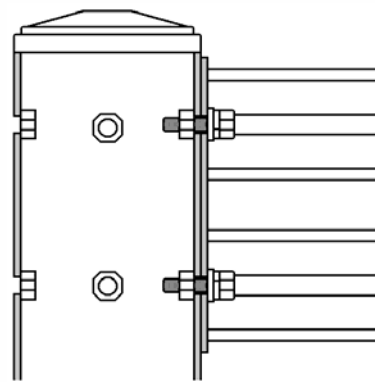
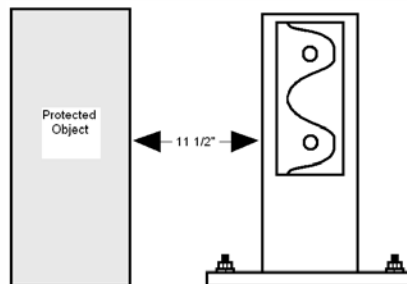

Figure 1 – Cut-Away View
Figure 2 – Rail Placement
5. Using the provided hardware, bolt the rails into place on the columns as seen in Figure 1. The front of the rail with the Rhino Rails logo should face away from the protected object as seen in Figure 2. Please Note: When installing Lift Out Adaptor option, the included lock washers are not required.